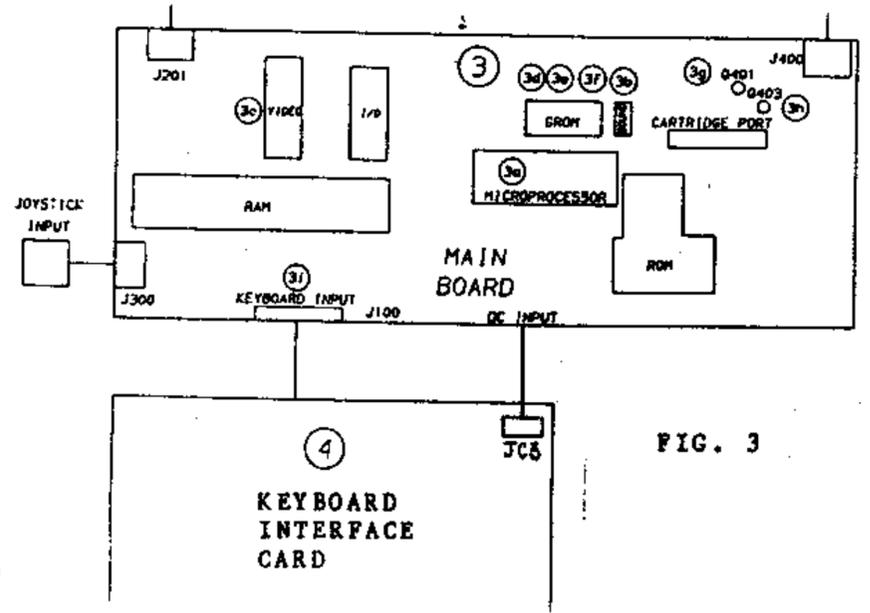

FIG. 3
- 7) Plug the four wire power cable connector from the main board to the connector on the RAVE 99 interface card marked JC3. Route any excess cable length over the main board shield. See FIG. 3.